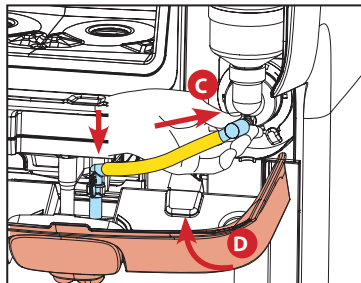

Fig.17
Close the panel (D) and the dispenser will automatically return to normal dispensing functions. (see fig.17)